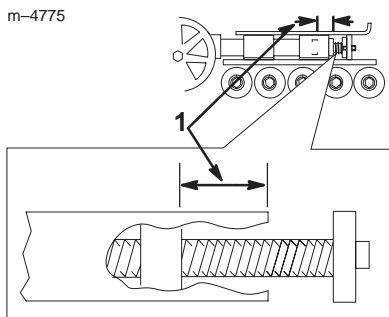
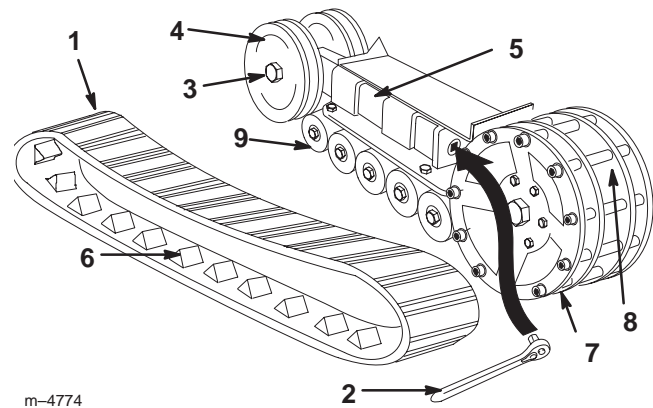

Figure 34
Figure 37
Check and adjust the track tension every 100 operating hours. There should be 2-3/4 in. (7 cm.) between the tension nut and the back of the tension tube (Fig. 34). If not, adjust the track tension using the following procedure:
4. Using a 1/2 in. drive socket (Fig. 37), turn the tensioning screw counter-clockwise until the distance between the tension nut and the back of the tension tube (Fig. 34) is 2-3/4 in. (7 cm.).
11. Turn the tensioning screw counter-clockwise until the distance between the tension nut and the back of the fork tube (Fig. 34) is 2 3/4 in. (7 cm.).
5. Push the tension wheel toward the rear of the unit to move the tension tube against the frame (Fig. 37). (If it does not touch the frame, continue turning the tensioning screw until it does.)
6. Remove the nut securing the outer tension wheel and remove the wheel (Fig. 37).
7. Remove the track (Fig. 37).
8. Install the new track, ensuring that the lugs in the track fit between the spacers in the middle of the drive sprocket (Fig. 37).
9. Install the outer tension wheel and secure it with the nut (Fig. 37).
11. Turn the tensioning screw counter-clockwise until the distance between the tension nut and the back of the tension tube (Fig. 34) is 2-3/4 in. (7 cm.).